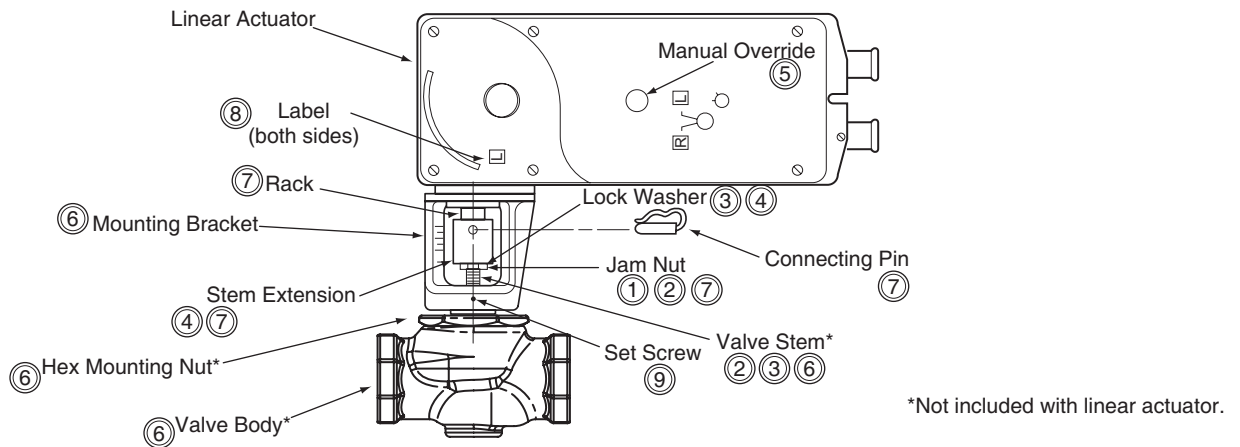

Figure-11 Typical Assembly and Installation of Mx51 Series Actuator to 1-1/4" to 2" VB-7xxx Series Valve Bodies, Stem-Up Closed or Open, 2-Way and 3-Way Valves.
- A. Install the actuator onto the valve. Set up the assembly according to the numbered steps in Figure-11.